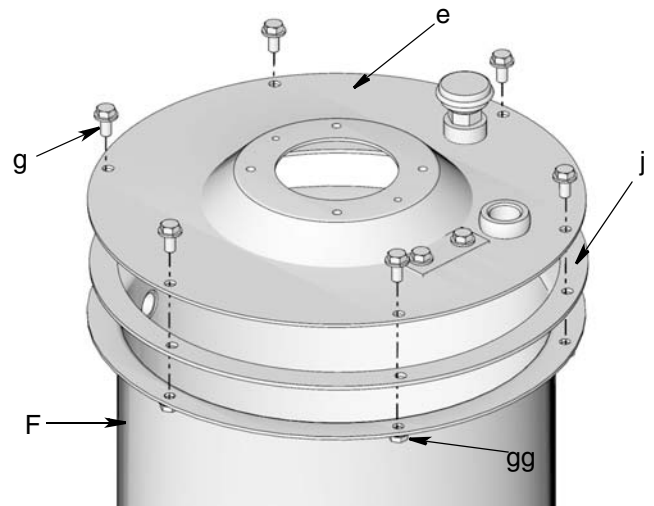

FIG. 5
5. Remove the bolts (g) and nuts (gg) (holding the cover (e) to the reservoir (F)) (FIG. 5). Save these parts to use for installation.
6. Remove cover (e) and gasket (j) (FIG. 5). Save these parts to use for installation.